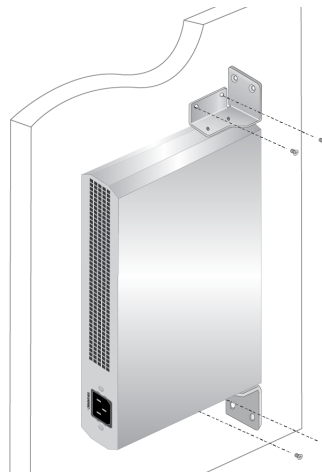

Figure 12. Driving the Screws through the Holes
8. Position the switch on the wall and drive screws through the holes to attach the brackets on the wall. See Figure 12.